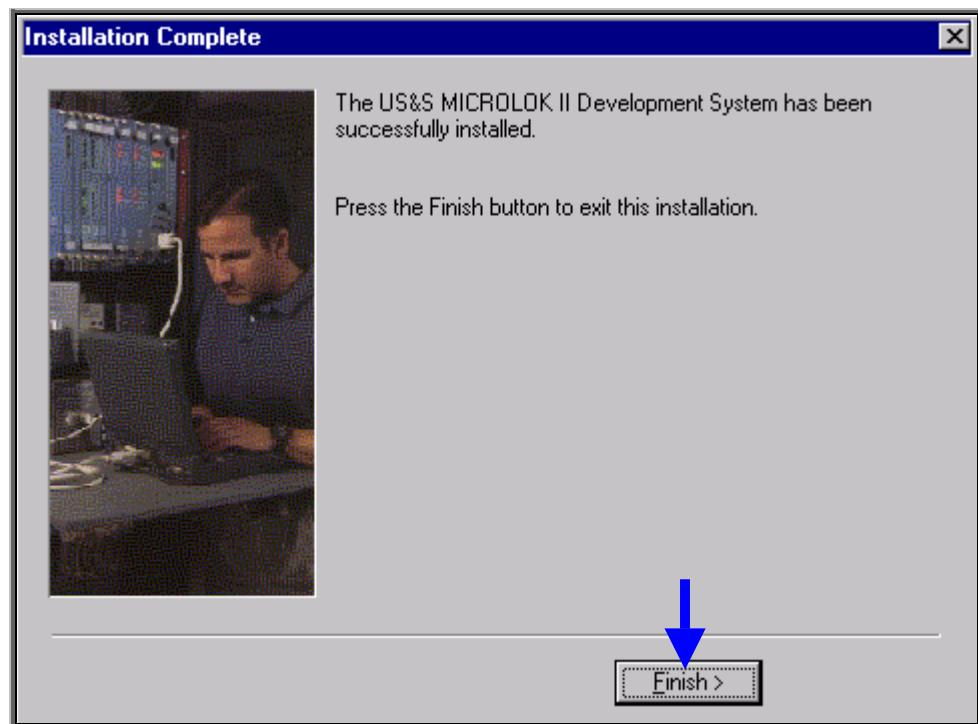

Figure-4.7
- ❖ After the completion of installation, another dialogue box will appear as shown in Figure-4.7.